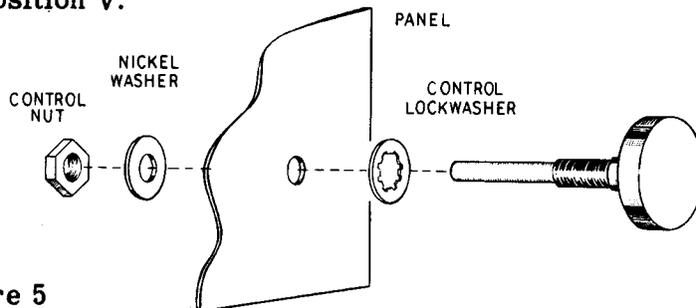

Figure 5
- () Mount the single wafer rotary switch at W, Pictorial 1, using a 3/8 lockwasher inside the chassis and a 3/8-32 control nut and flat washer on the outside. Refer to Figure 5.